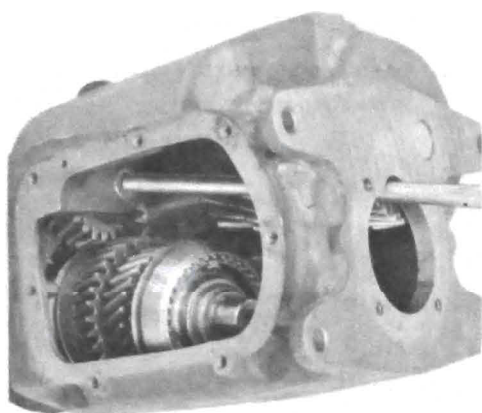

Figure 72-302 Removing Reverse Idler Shaft
3. Rotate extension housing 1/4 counterclockwise, and using drift or other suitable tool, drive reverse idler shaft and its woodruff key out rear of case. See Figure 72-302.